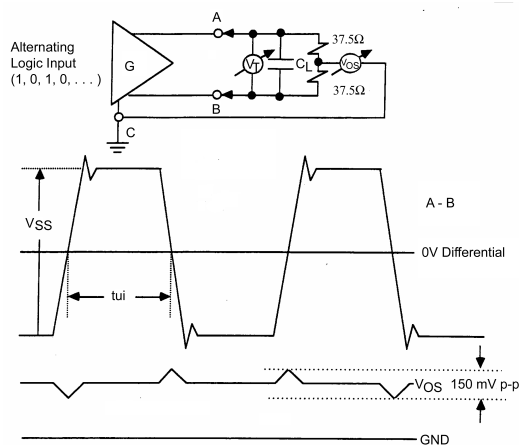

FIGURE 2. Dynamic  $V_{OS}$  Test Circuit and Waveforms
2. When the true and complement LVDS outputs (having a  $5\text{ pF}$  capacitor attached between outputs) are connected with  $37.5\Omega$  resistors each to common point, then the common point does not vary by more than  $150\text{ mV}$  under all process, temperature and voltage conditions when the outputs switch either from LOW-to-HIGH or from HIGH-to-LOW (see Figure 2).